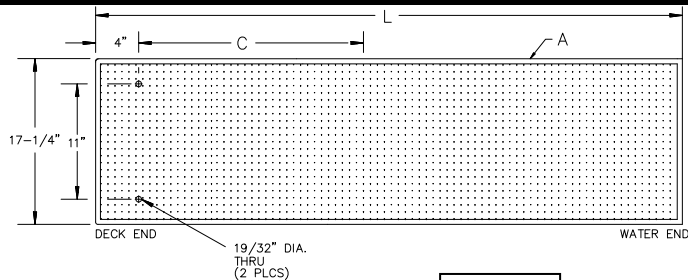

FIG. 1
- COMMERCIAL:** READ CAREFULLY the following, and the Commercial Diving Board Instructions which have been provided with the diving board and pay particular attention to Figure 1 and Table 2 set forth therein extracted from ANSI/NSPI-1 2003.
Refer to Fig. 1